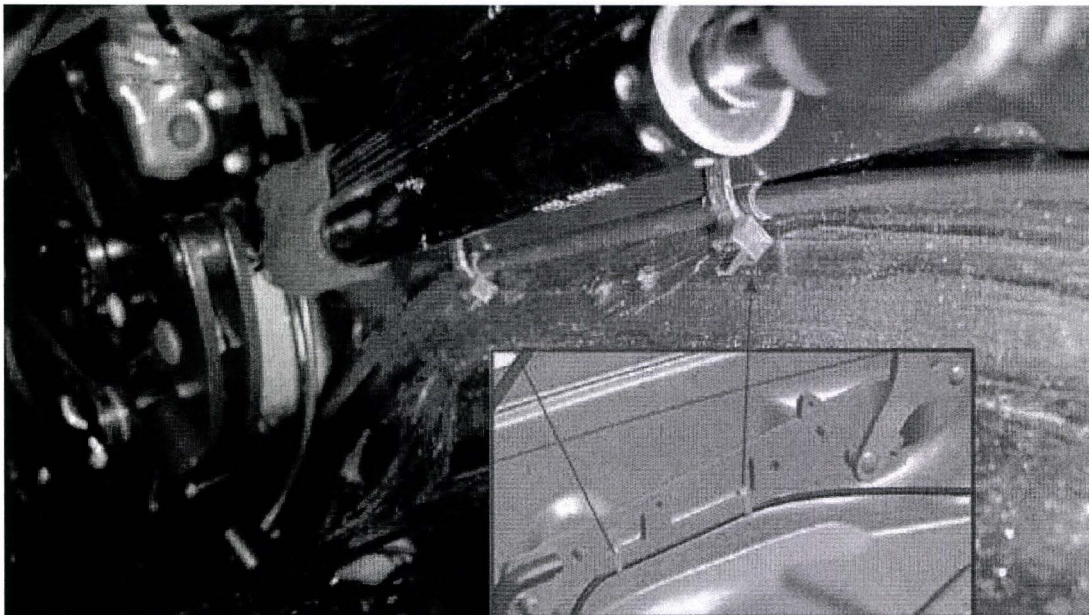

Figure 7
If the vehicle is not already listed as repaired in the "Repair history" (in Elsa pro), check for the presence of the correctly located cable tie (see Figure 7), should neither be evident carry out the required work in accordance with these instructions
8. Referencing figure 7 secure the Bowden cable to the tonneau cover drive system using two cable ties. Ensure the Bowden cable is retained underneath, along the bottom of the bracket, where it cannot come into contact with the hydraulic ram. It may be necessary to temporarily release the Bowden cable from other retaining clips to gain sufficient length to enable the two new cable ties to be attached.
this campaign has been performed (see Figure 7)